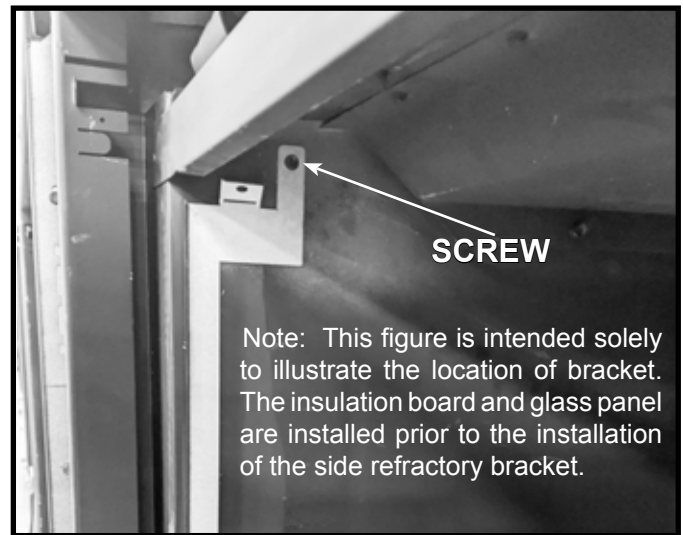
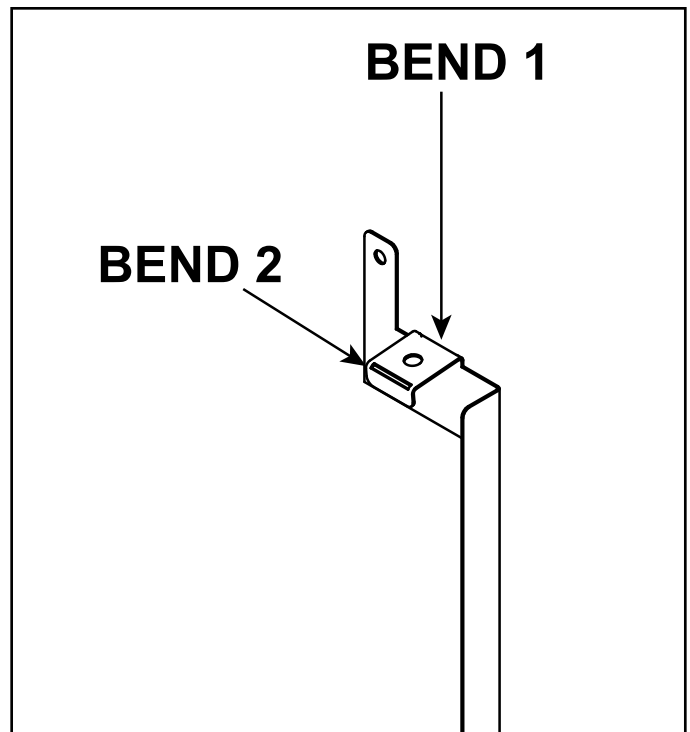
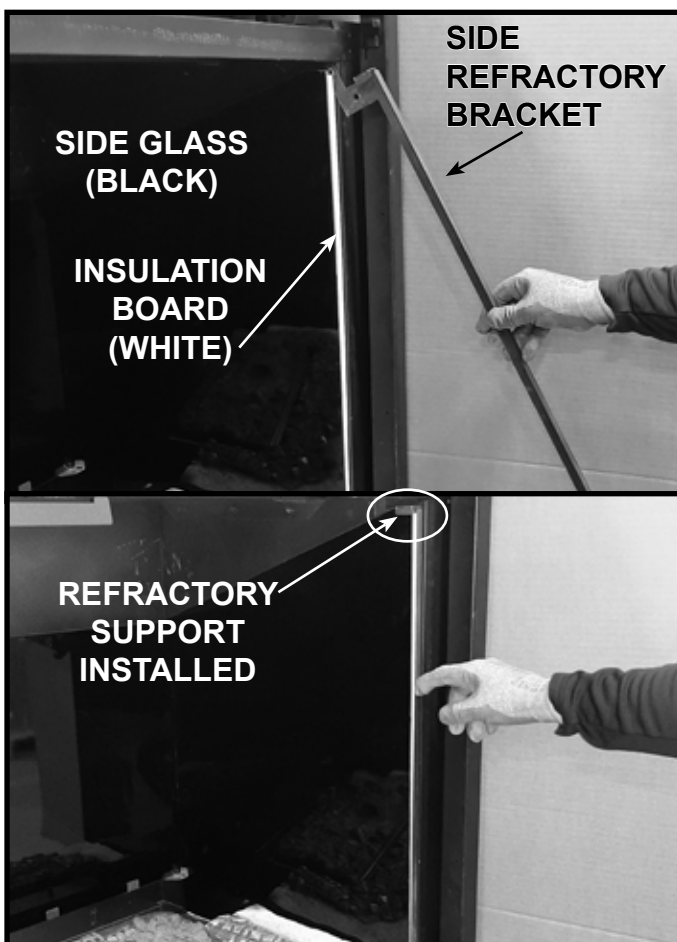
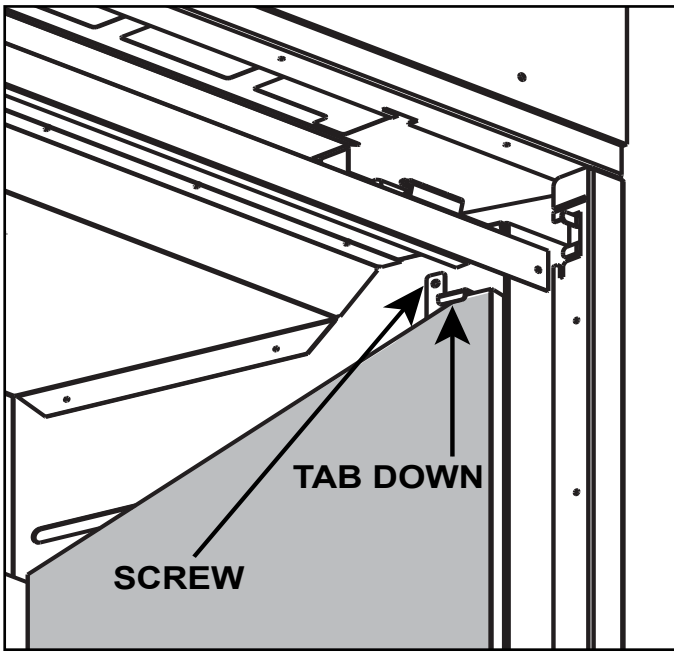

Figure 9 Side Refractory Bracket in Position
Figure 10 Bend Side Refractory Bracket Tabs
Figure 8 Install Side Refractory Bracket with Side Insulation Board and Side Glass Panel
Figure 11 Install Side Glass Refractory Bracket
9. Install side glass panel in front of insulation board as shown in Figure 8.
10. Bend the side refractory bracket tab down as shown in Figure 9, labeled Bend 1. Place the side refractory bracket into position. Put the top in first and orient it as shown in Figure 8.
11. Install side refractory bracket between the insulation board and the side of the firebox. Position the side refractory bracket, insulation board and side glass panel upright against the inside wall of the firebox as shown in Figure 8. Secure side refractory bracket with one self-tapping screw as shown in Figure 9. Bend side refractory bracket tab over glass panel as shown in Figure 10, labeled Bend 2. Refractory bracket is shown installed, with the tab bent correctly, in Figure 11.